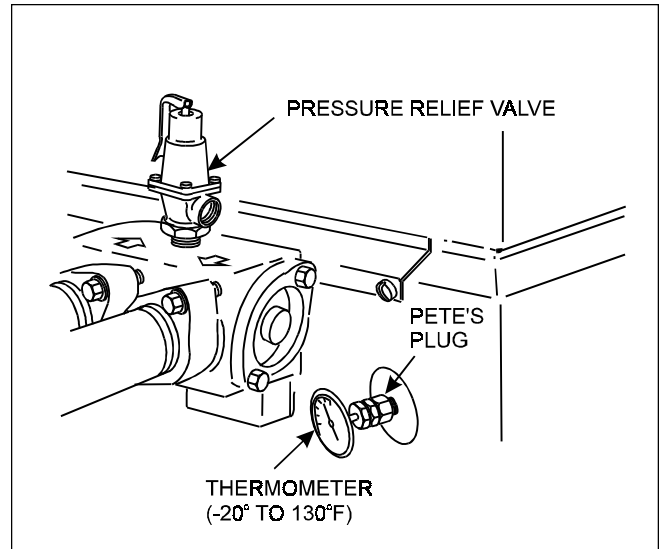

Figure 17. Thermometer and pressure relief valve.
1. Turn the control panel rotary switch to OFF (see Figure 17).
2. Set the rotary switch on the temperature control panel (see Figure 17) to OFF.